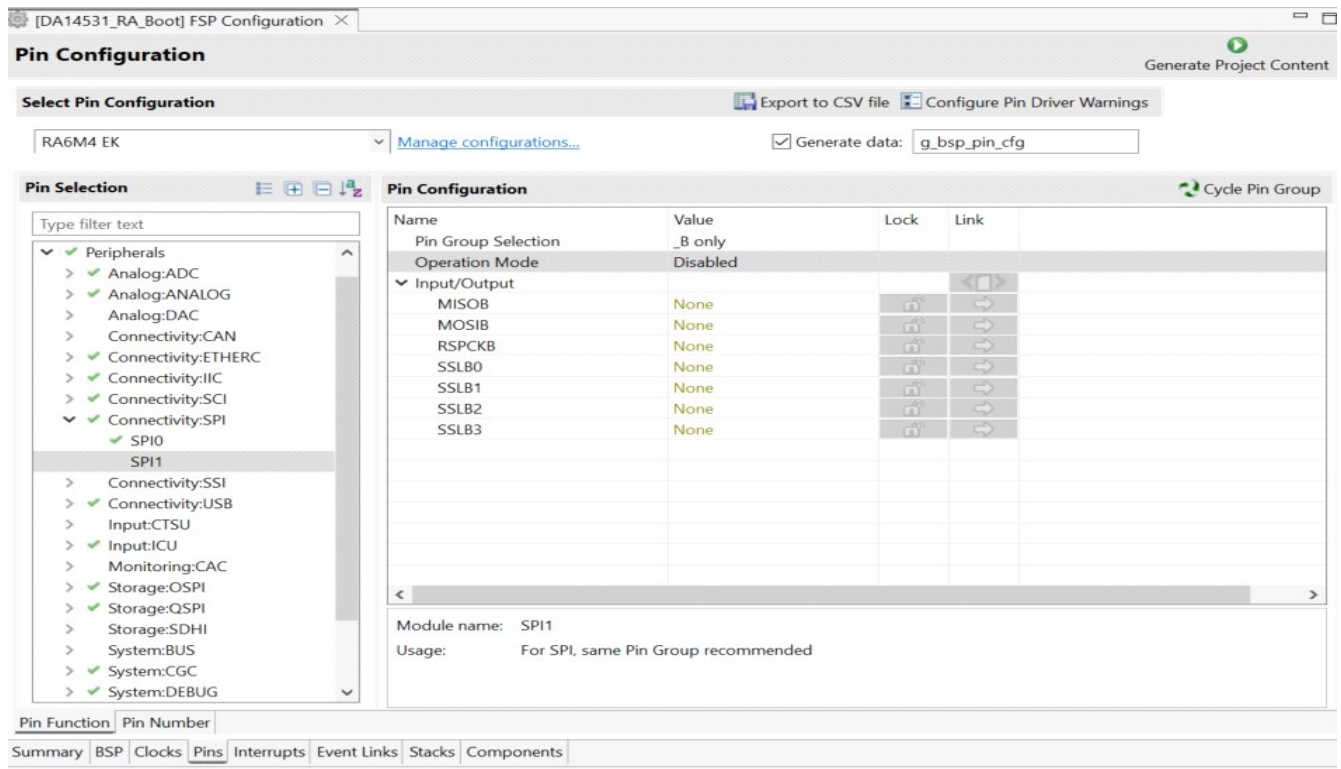

Figure 13. Pins Tab – Peripherals > Connectivity: SPI Group
- 13. Navigate to the **Pins** tab within the **Pins Configuration** window (see Figure 13).